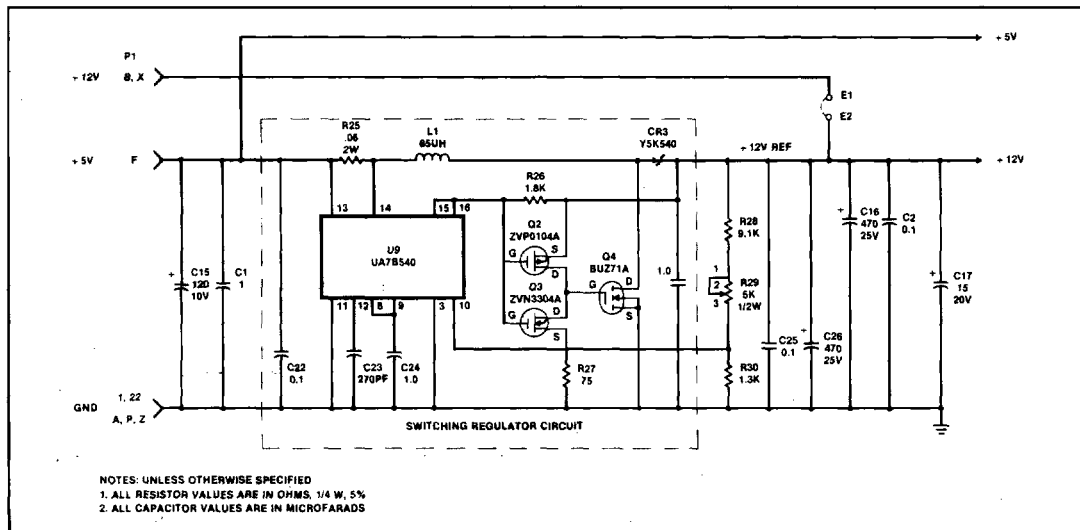

Figure 4. BPK 5V75 Voltage Regulator Circuit
2. Use voltage regulator with 5V ± 5% input and 12V ± 1% output as used in BPK 5V75 prototype kit. Circuitry — See Figure 4.